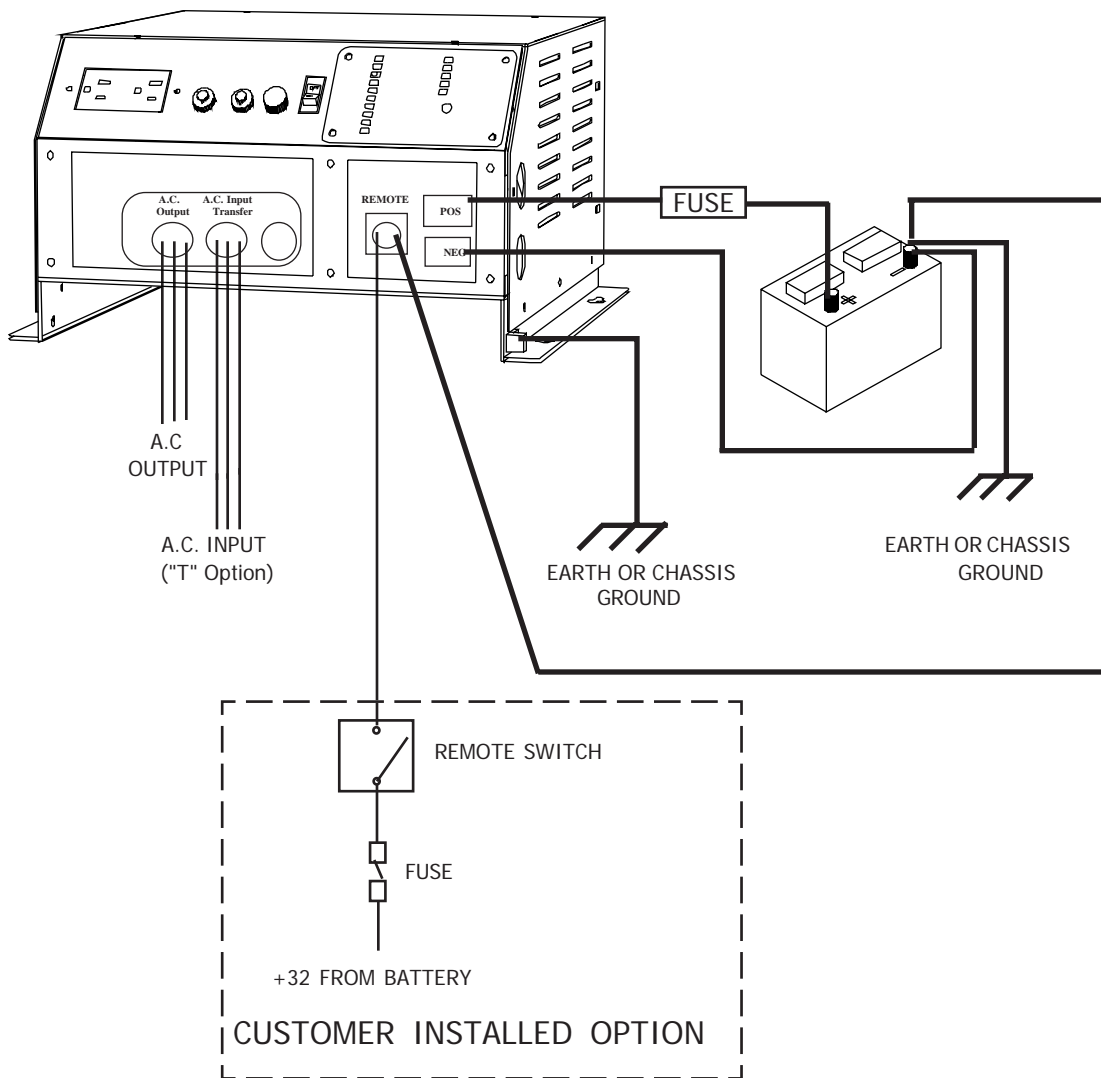

FIG. 1 INSTALLATION WIRING
3.04 Chassis Bonding Lug - FIG. 1
3.05 Battery Wiring - FIG. 1
Operation - Fig. 1